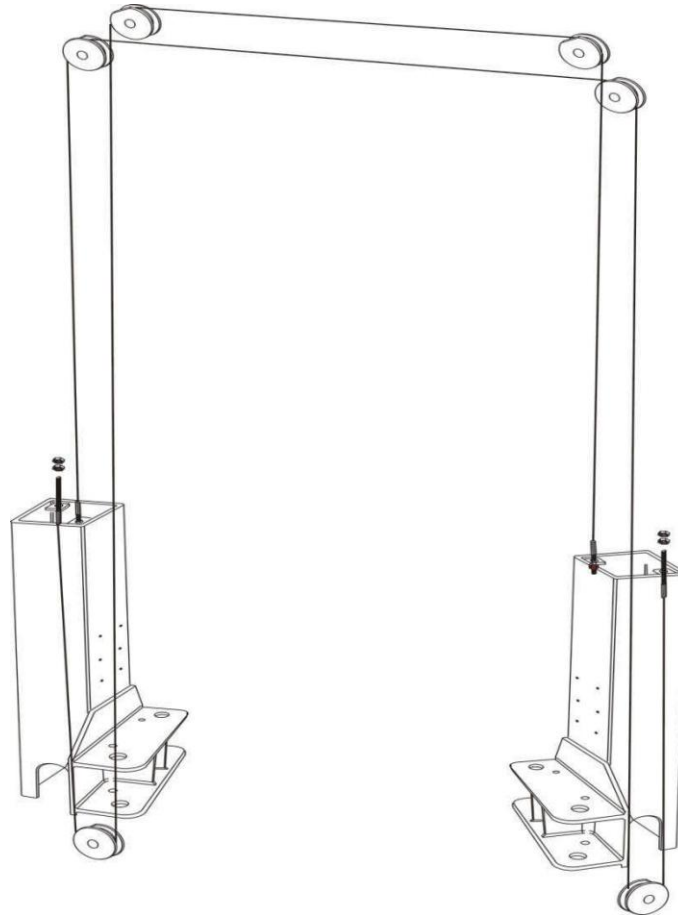

Fig.13a
- Raise the two carriages to the safety locking position, make sure the two carriages are of the same height from ground. , route the steel cables as Fig. 13a shows ,Adjust the tension of cables through the adjustment